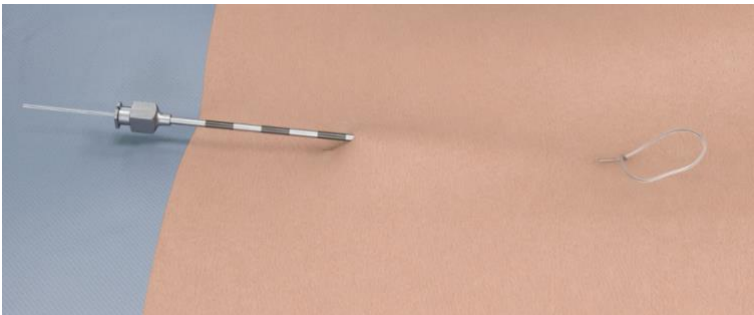

Figure 2
4. Feed the tip of the receiver and electrode array through the distal end of the needle back into the subcutaneous receiver pocket. (Figure 2)